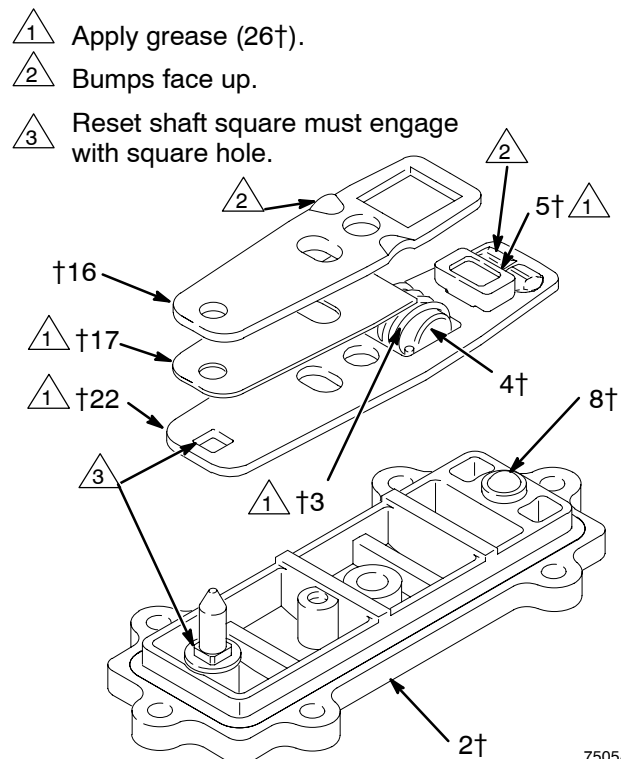

Fig. 8
5. Grease the detent link (22) and link spacer (17). Assemble the detent link, link spacer, and actuator link (16) as shown in Fig. 8. The raised bumps on the links (22 and 16) must face up.
6. Squeeze the spring (3) and install it and the stop (4) in the link assembly. The spring tension will hold all these parts together. Grease the valve cup (5) and install it in the link assembly as shown.
7. Install the link assembly on the cover (2) so the pointed end of the reset shaft (21) fits through the holes in the links and the square part of the shaft engages the square hole. Make certain the bumps on the detent link (22) engage the ball (8).